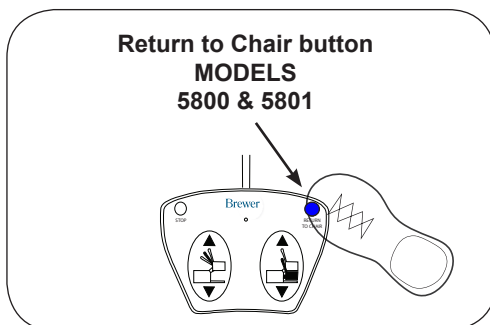

Figure 35. Lowering with Return to Chair
2. To lower the table, raise the backrest to the upright position, then depress and hold the Table Down pedal until the desired height is achieved, then release the pedal, or press the Return to Chair button (Figure 35).